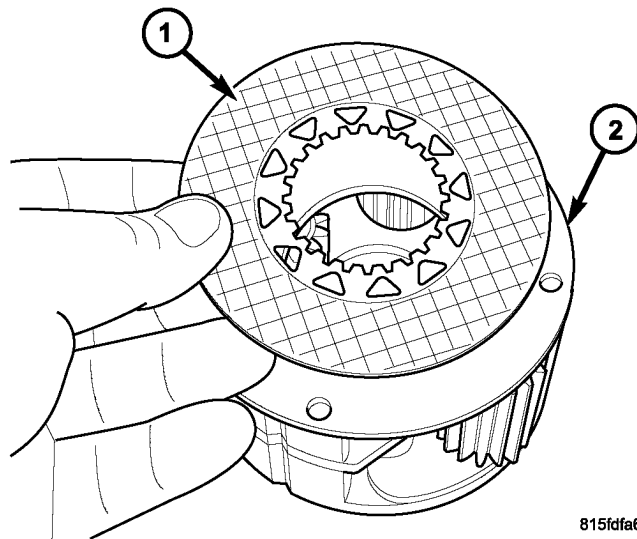

Fig. 7 REMOVE FRICTION DISC
11. Remove the friction disc from the friction disc washer (Fig. 7).